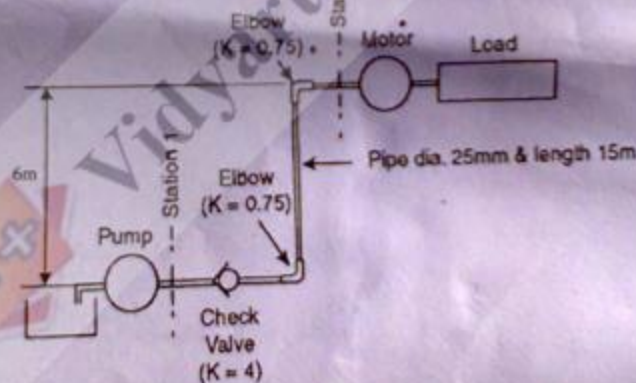

Fig. Q. 11(b) Hydraulic system
- (b) The system shown in Fig. Q. 11(b) contains a hydraulic pump delivering high pressure oil of specific gravity 0.9 and kinematic viscosity $1.25 \times 10^{-4} \text{ m}^2/\text{s}$, to a hydraulic motor. A 15 m pipe of internal diameter 25 mm and thickness of 5 mm connects the pump and motor. The pipe has two elbow fittings ($k = 0.75$) and one check valve ($k = 4.0$). The motor is placed 6 m above the pump. The pressure required to drive the loaded motor is 34 bar. Determine the pump discharge pressure, if the discharge from the pump is 150 lpm.